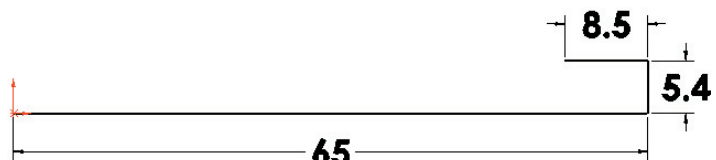

Fig. 3
Step 5. Click **Smart Dimension**  (S) on the Sketch toolbar.
Step 6. Add the dimensions as shown in **Fig. 3**. To Smart dimension click the line then move the cursor out away from the line and click. Key-in the dimension and press ENTER. Arrange the dimensions as **Fig. 3**.